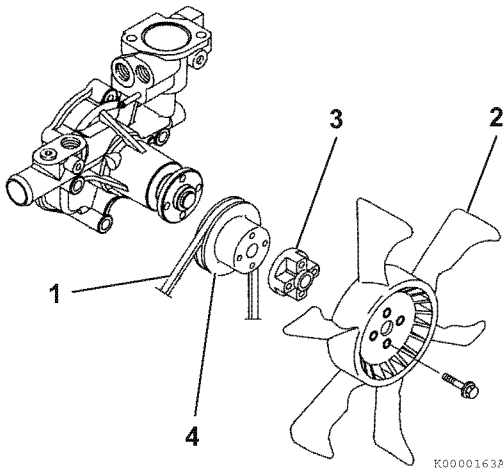

Figure 7-28
13. Reinstall the cooling fan V-belt (1, **Figure 7-28**). Adjust it as described in *Check and adjust cooling fan V-belt on page 5-7*.
12. Reinstall the engine coolant pump V-pulley (4, **Figure 7-28**), spacer (3, **Figure 7-28**) (if equipped) and engine coolant fan (2, **Figure 7-28**).